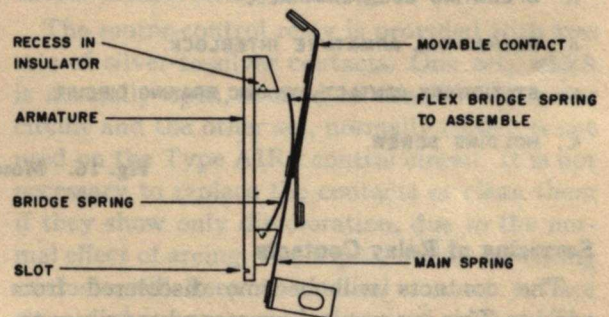

Fig. 17. Assembly of moving contact to armature on motor-control relay
The movable-contact assemblies consist of three flat springs and silver, steel-backed contacts welded together. Fig. 17 shows the contact assembly and the method of assembling the movable contact assembly to the armature.
2. Remove the armatures from the movable-contact unit by holding the contact unit at the center of the bridge spring, see Fig. 17, and pulling the armature straight out and away from the bridge spring.